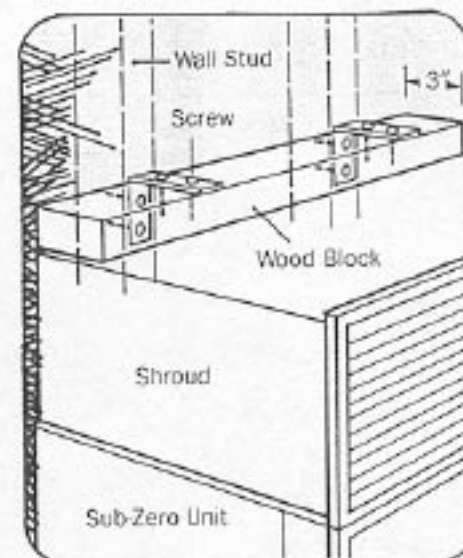

Figure 11
2) Locate the proper height to clear the unit. The space along the top of the Sub-Zero between the unit and the bottom of the wood block must not be greater than 1/4". See Figure 11.
3) Position the wood block over the unit and secure it using the screws and "L" brackets provided. Make sure screws extend a minimum of 7/8" into each of the two wall studs. The wood block must extend a minimum of three inches over the unit. See Figure 11.